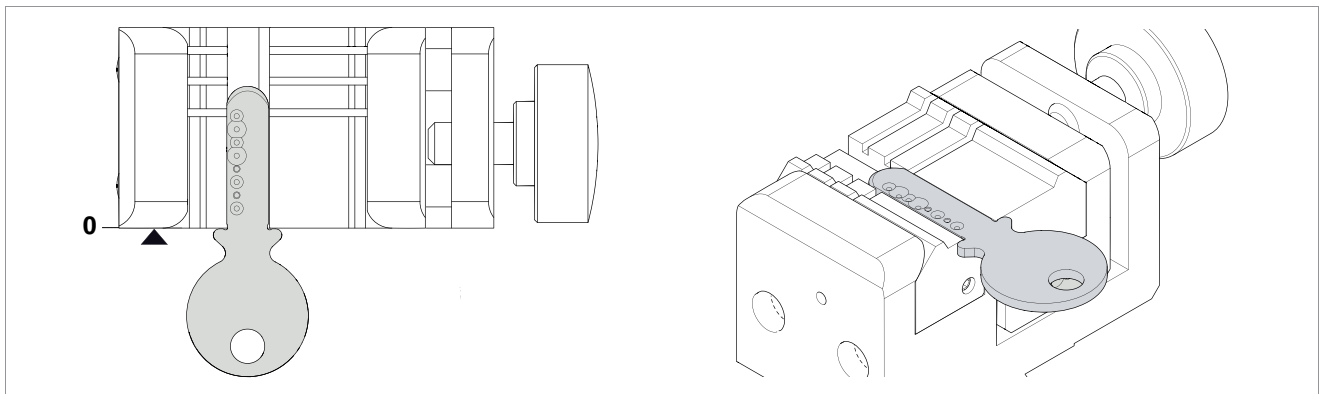
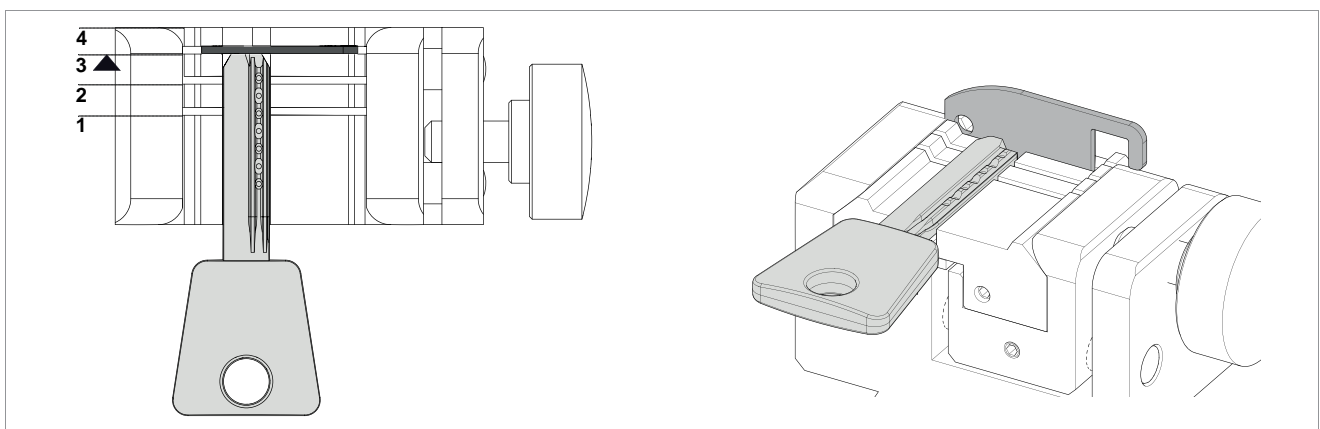

Fig. 25 - SHOULDER STOP
Fig. 26 - TIP STOP
- clamp stop (Fig. 25 and Fig. 26)
For shoulder stop keys, place the shoulder of the key against the jaws (stop "0") (Fig. 25) and the others (tip stop) must be placed against one of the grooves (1-2-3-4), as indicated in the Silca tablet program.